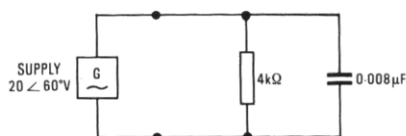

Fig. 1
- Q2** For the circuit shown in Fig. 1, at a frequency of 2 kHz,